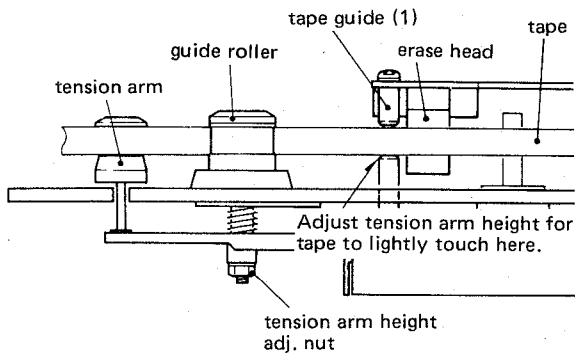

Fig. 2-19 Tension arm height adjustment
1. Playing a TEAC YTT-8013 test tape (thickness = 35 μ m), adjust the height of the left tension arm so that the lower edge of the tape is just touching the lower edge of the tape guide (1). See Fig. 2-19. Also refer to "2-10 TENSION ARM HEIGHT ADJUSTMENT".
2. Adjust the height of the tape guide (2) so that the upper edge of the tape is in contact with the upper edge of the tape guide.
4. Adjust height of tape guides (3) and (4) in the same way as steps 1 ~ 3. For tape guide (4), adjust right tension arm height.
6. Apply locking paint to the height adjust nut of tape guides (2) and (3).